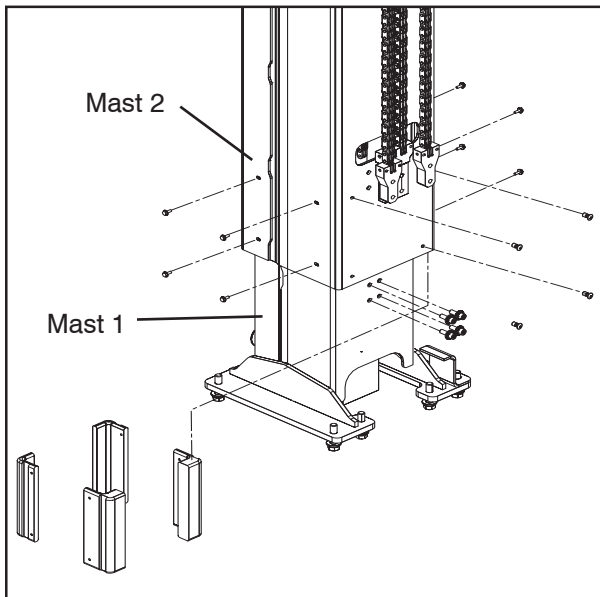

Figure 5-35. Mast 2 Installation Procedure
5. Align the inner chain within mast 1 and install the chain mounting bolts. (Use Loctite 242 or equivalent on the mounting bolts and torque to 200 lb-in) See Figure 5-35.